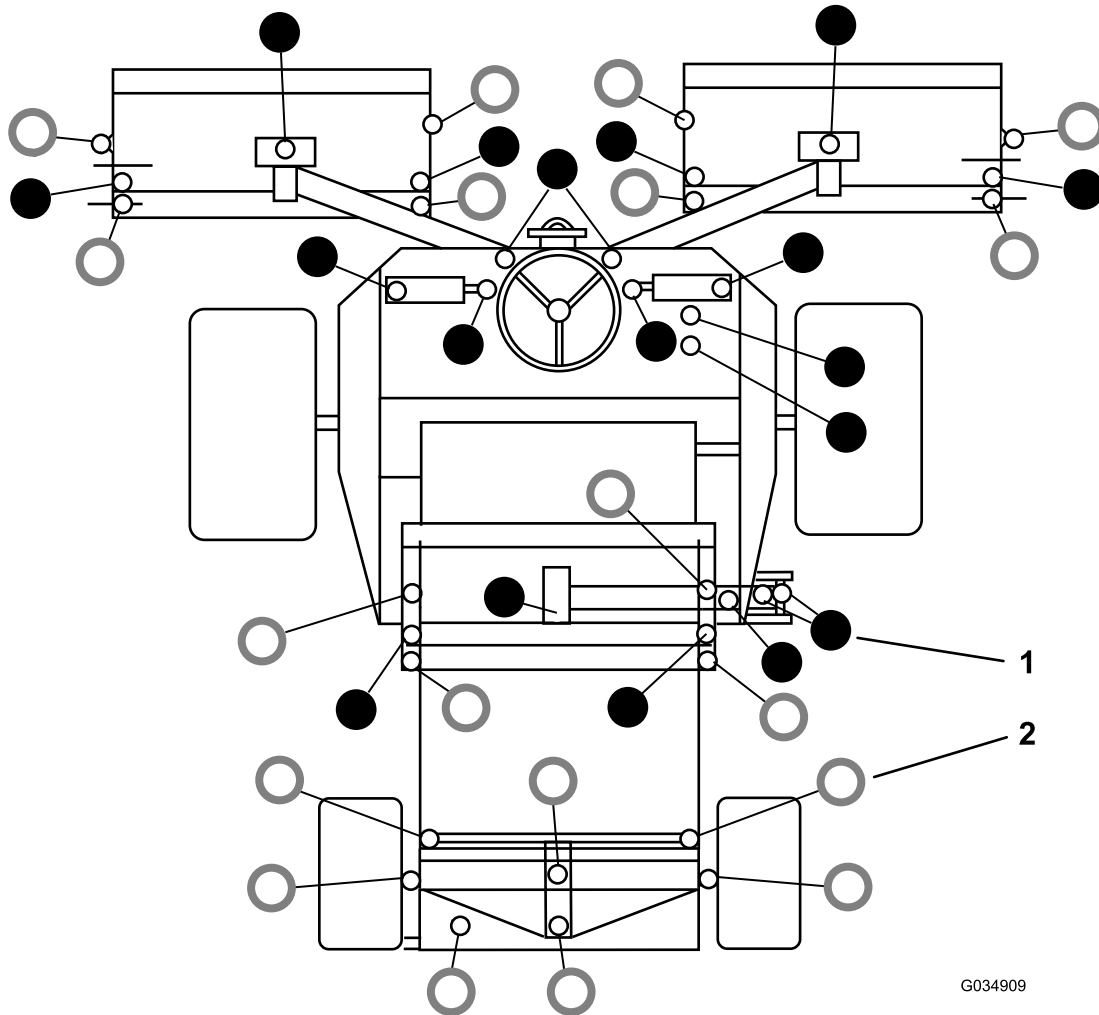

Figure 50
- Refer to Figure 50 for the grease fitting locations.